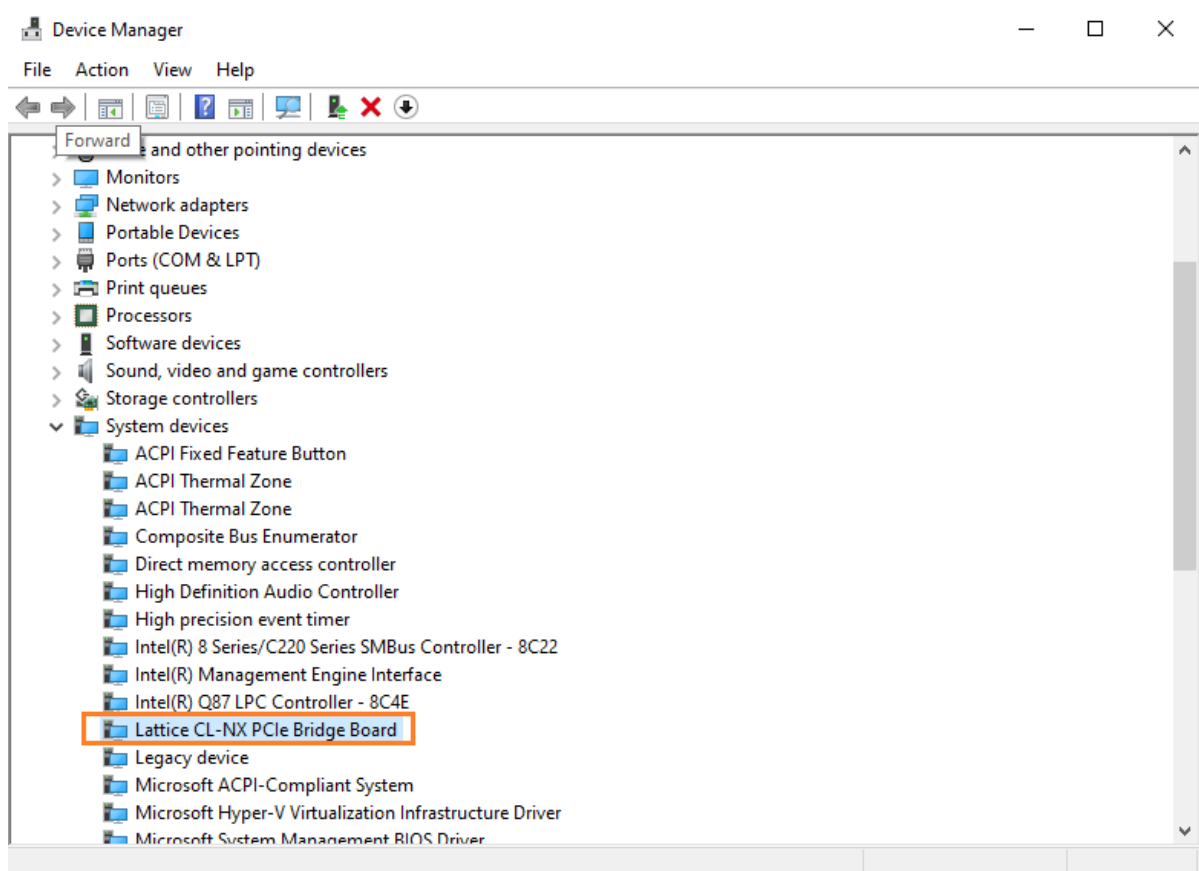
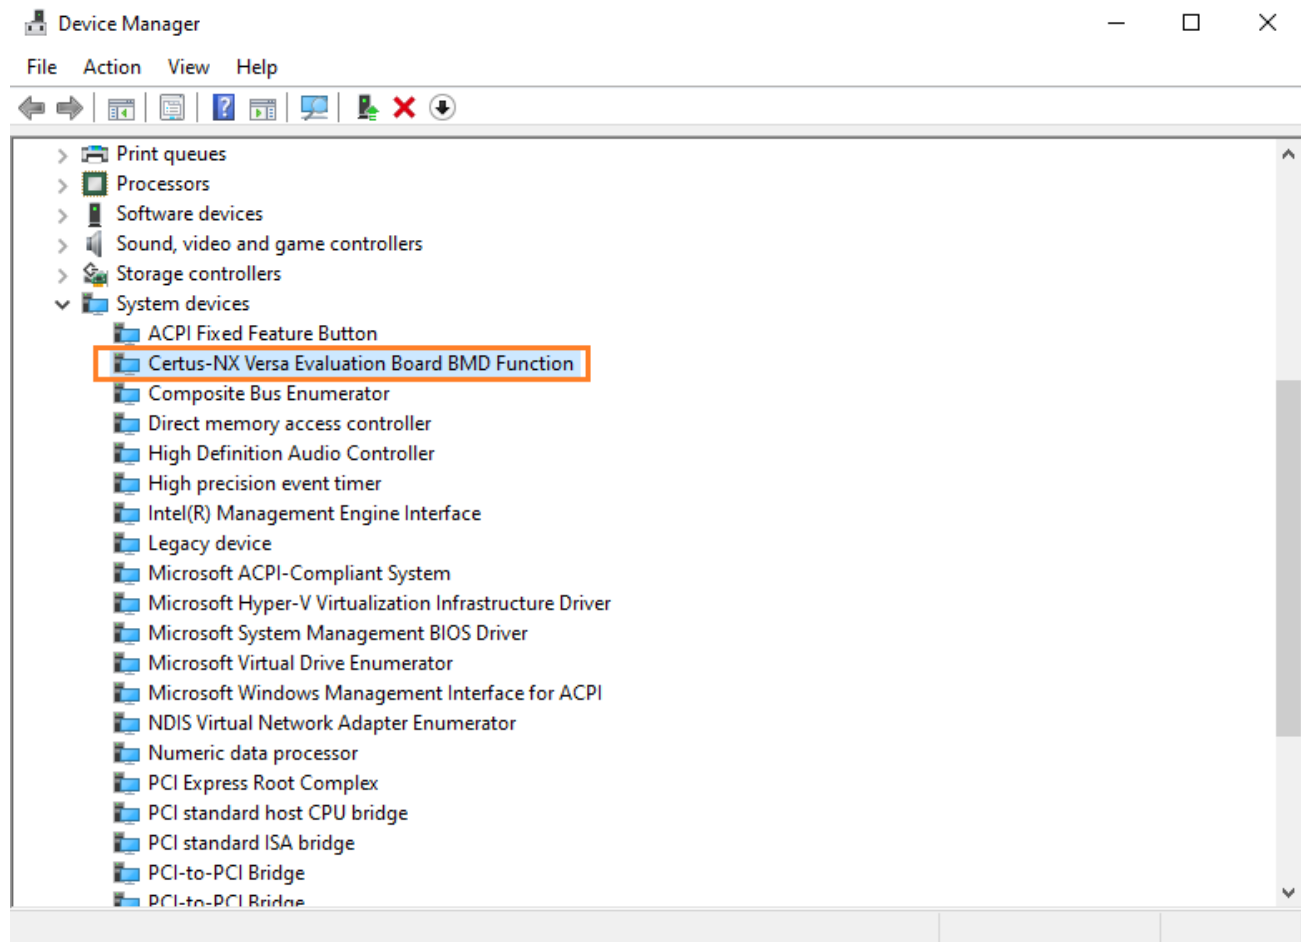
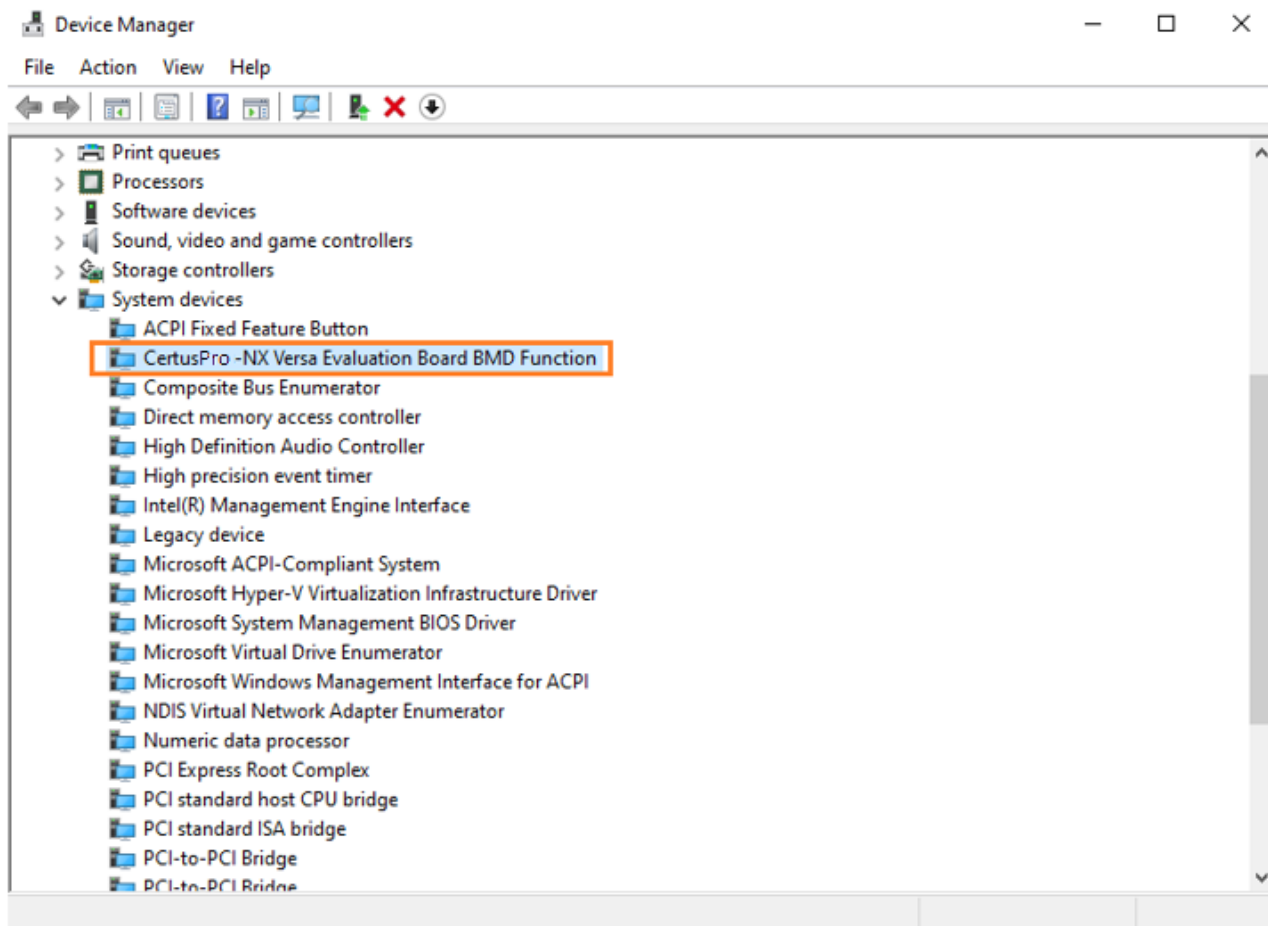

Figure 3.43. CrossLink-NX DMA Throughput Demo Device Name Displayed in Device Manager
Figure 3.44. Certus-NX DMA Throughput Demo Device Name Displayed in Device Manager
Figure 3.45. CertusPro-NX DMA Throughput Demo Device Name Displayed in Device Manager
- After the driver is installed, the device driver name is displayed in Device Manager, as shown in Figure 3.43 for CrossLink-NX family, Figure 3.44 for Certus-NX family, and Figure 3.45 for CertusPro-NX family.